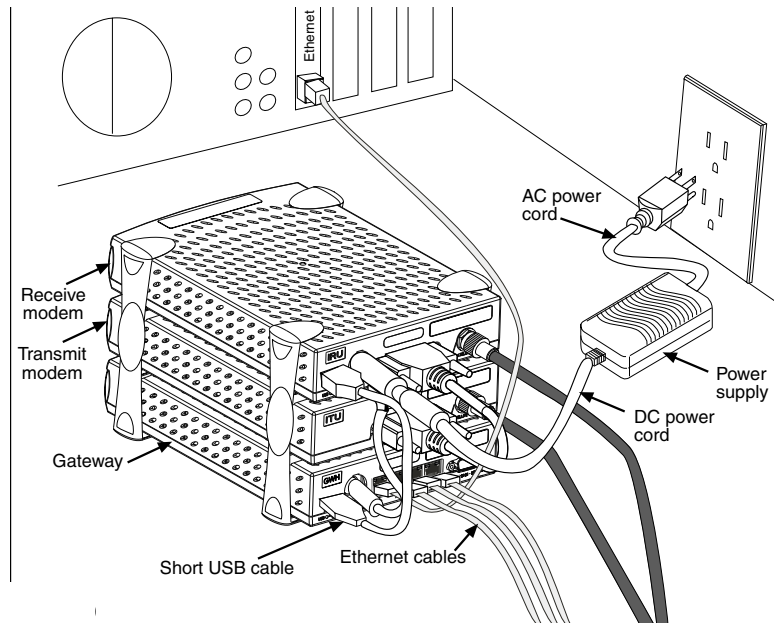

Figure 31: Final cabling
2. Connect the receive modem to the Gateway using the USB cable supplied with the unit. See Figure 31. The DW4020 will re-initialize and come back up in normal mode.
3. Connect the receive coaxial cable to the receive modem and the transmit coaxial cable to the transmit modem. See Figure 31.
6. The DW4020 is now commissioned. Connect the customer's computer and the Gateway with Ethernet cable. See Figure 31. If the computer has a functioning and properly configured Ethernet interface, it will surf the Internet. If the customer cannot surf, see the instructions below.